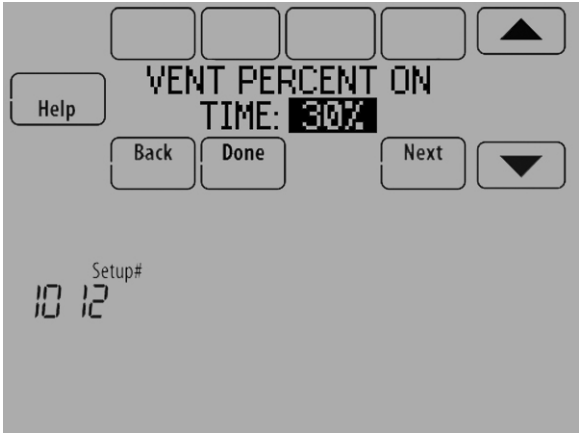

Fig. 233.
- 8. If Percent On Time was selected for ISU 1005, select the Ventilation Percent on Time. See Fig. 233.